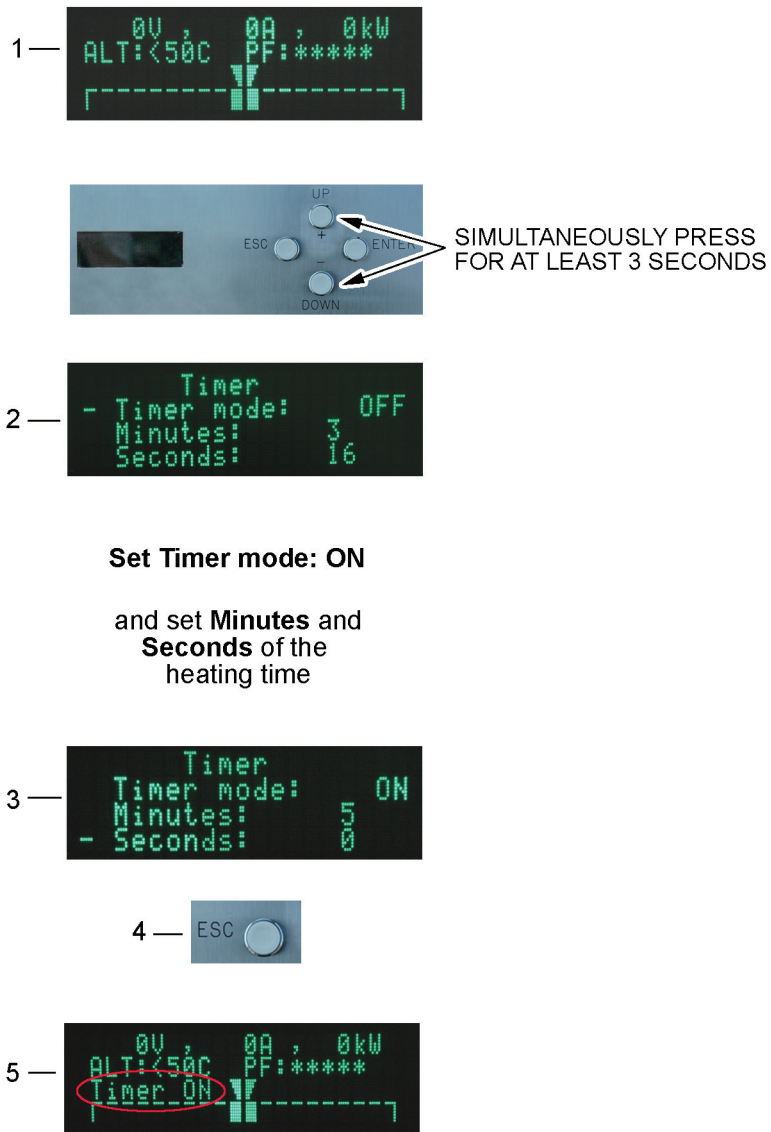

Figure 6.15 - Timer for setting the heating time
In order to set the heating time, proceed as here following specified, by using like a reference also the flow diagram illustrated in Figure 6.15:
- 1) From the operative mode page (1) press the pushbuttons UP and DOWN for at least 3 seconds;
- 2) From the TIMER page (2) set Timer mode = ON and the heating time. See paragraph 6.2.2.1c "Setting of the generator working and use parameters" to learn how modify working parameters. (Example Figure 6.15/3: Timer mode=ON, Minutes=5 and Seconds=0);
- 3) Press ESC button (4) to go back to the operative mode page (5). Now on the bottom left side there is the message "TIMER ON" that means the hating cycle will automatically stop after the set time.